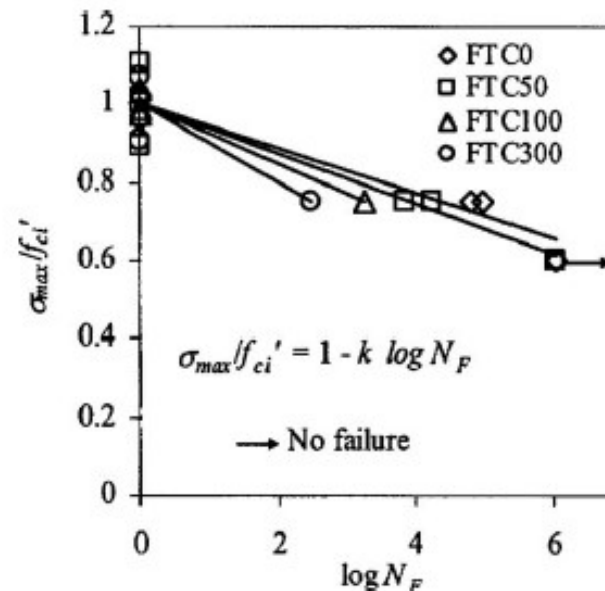

Fig.1
- 凍害を受けると, 疲労強度が小さくなる. (Fig.1) fatigue strength of frost-damaged concrete is less than non-damaged one.